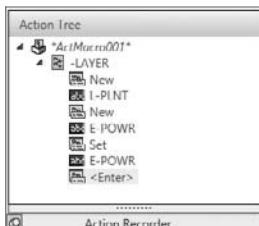

FIGURE 6.51 The Action Recorder after creating the new layers and setting the current layer
7. Click the Stop button to discontinue recording the actions. Your Action Recorder panel should look like Figure 6.51.